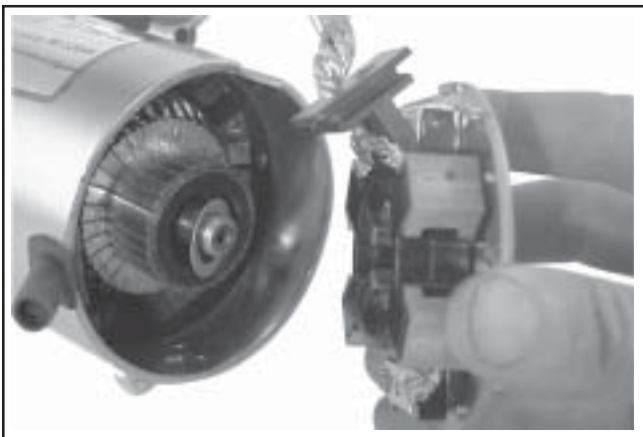

Figure 8-49. Removing Commutator End Plate Assembly.
5. Remove the commutator end plate assembly, containing the brush holder, brushes, springs, and locking caps. Remove the thrust washer from inside the commutator end. See Figure 8-49.